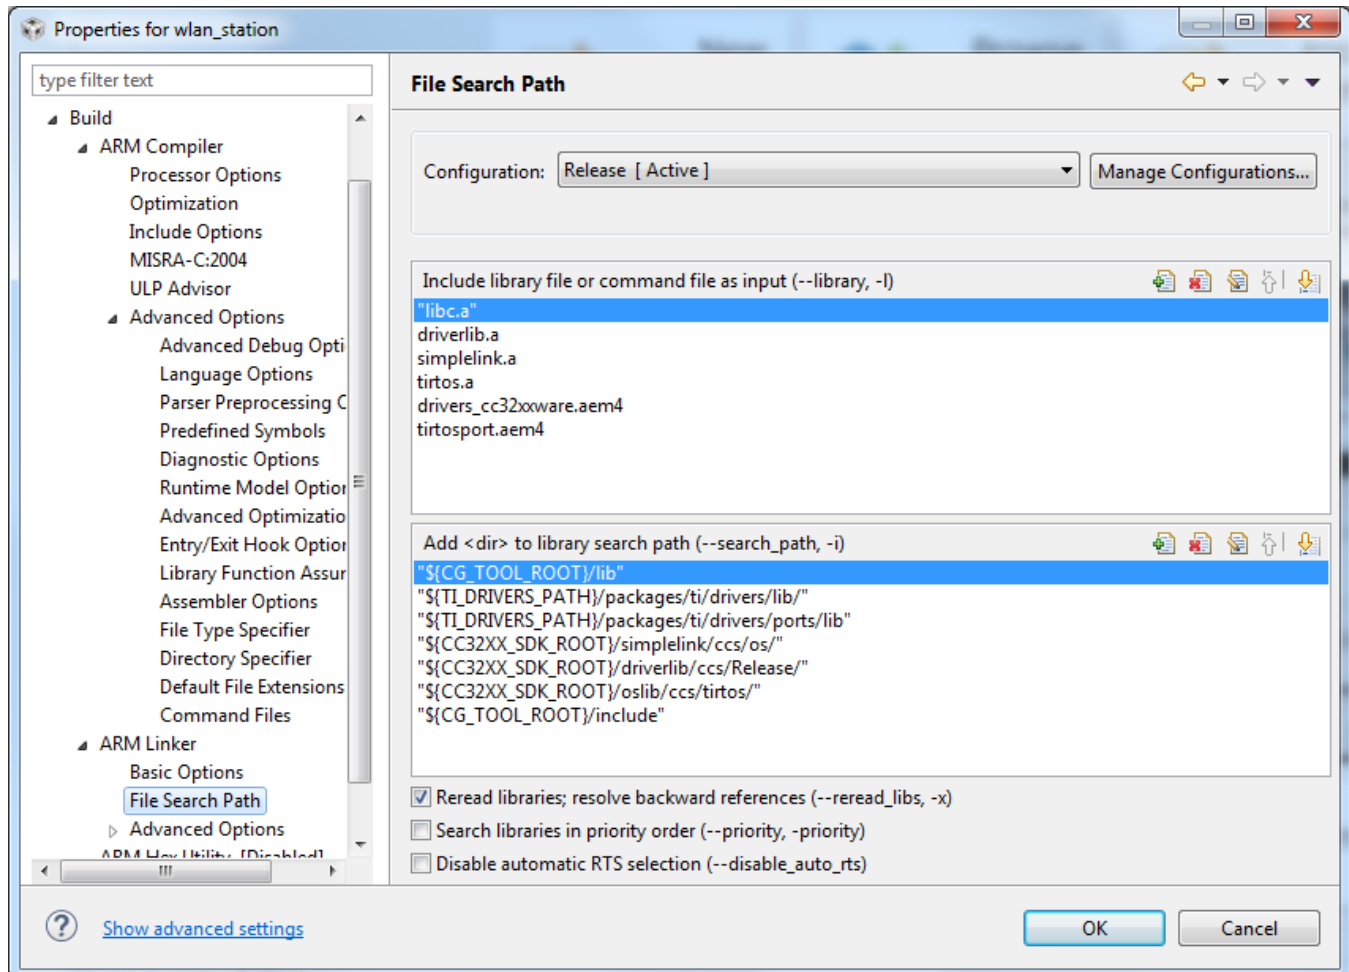

Figure 5-16. CCS Linker Settings
1. Add the library path as per application needs (driverlib.a, simplelink.a, freertos.a/ tirtos.a, osal_tidivers.a/tirtosport.aem4, tidivers_cc32xx/packages/ti/drivers/lib/drivers_cc32xxware.aem4), as shown in Figure 5-16.